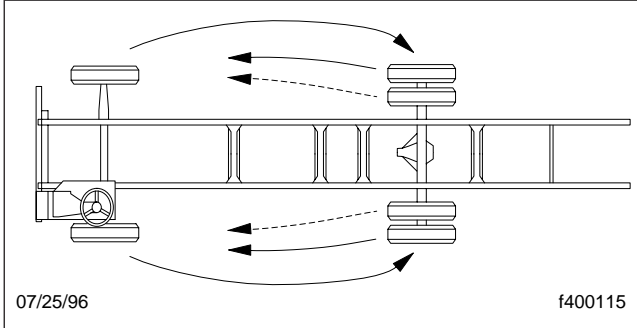
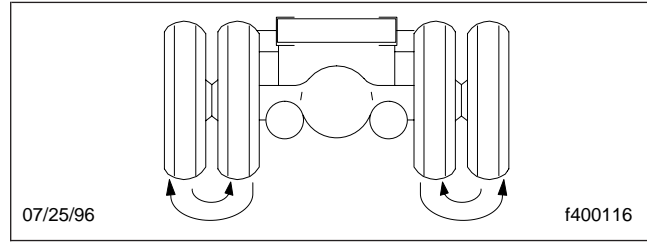

Fig. 8.13, Front Axle to Rear Axle Rotation
Fig. 8.14, Dual Assembly Rotation
- 29.5 If the tires are wearing irregularly, rotate them. If the front steering axle tires become irregularly worn, move them to the drive axle. See Fig. 8.13. Have the front axle alignment checked to determine the cause of irregular tire wear. In a dual assembly, if one tire wears faster than its mate, reverse the position of the two tires. See Fig. 8.14.